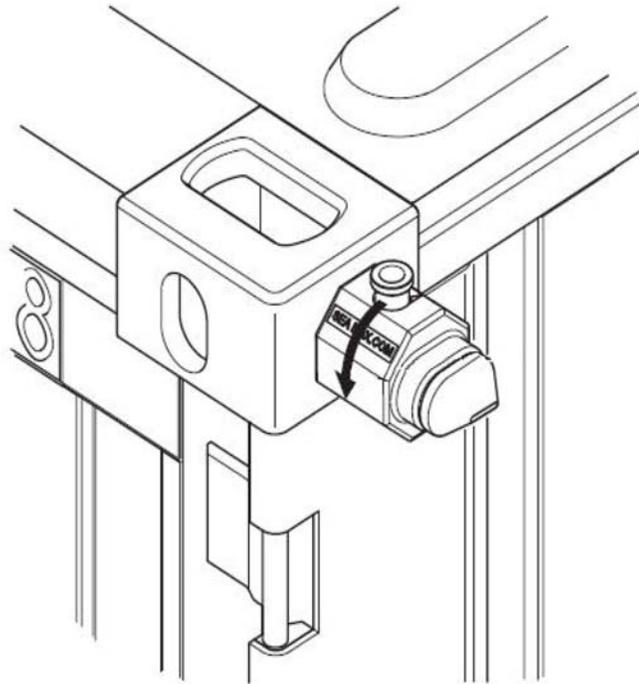

Figure 1-6. Container Connection.
- (9) Rotate the body of the container coupler 90° as shown in Figure 1-6 so that it locks into place.